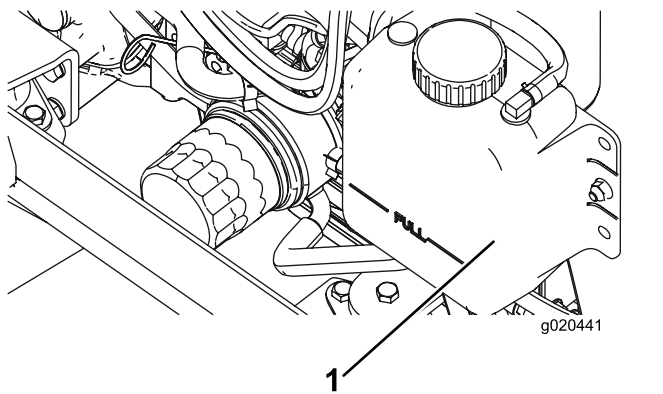

Figure 92
1. Carefully remove the radiator cap and expansion-tank cap (Figure 92).